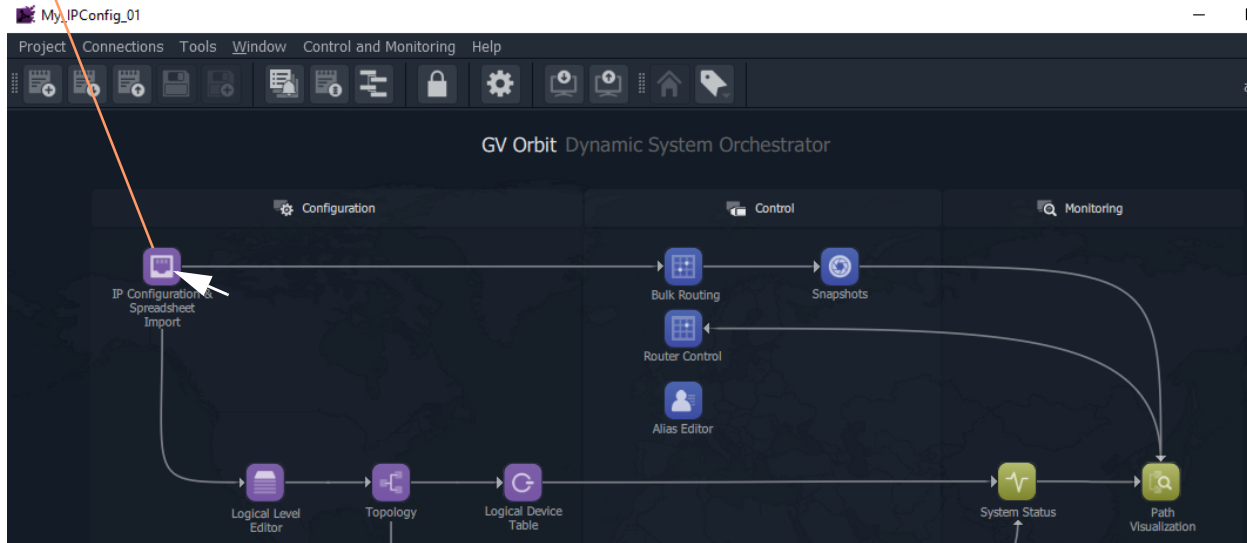

Fig. 17-5: IP Configuration and Spreadsheet Import Icon in the Routing Workflow Screen
- 2 Click on the 'IP Configuration and Spreadsheet Import' icon. See Figure 17-5.